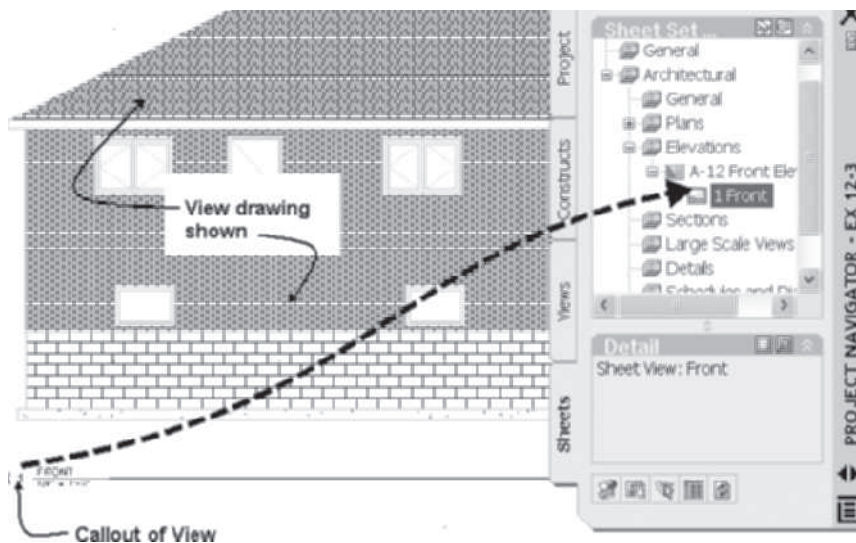

FIGURE 12.12 Callout data extracted from the sheet field
1. The callout number and view name can be edited in the Sheets tab of the Project Navigator. The callout identification number and scale of the view were assigned when the view was placed on the sheet. You can select the name in the Sheets tab of the Project Navigator, right-click, and choose **Rename and Renumber** to edit the number and name. When the view and sheet are reopened, the number and name will be updated. You can click and drag the callout of the view drawing to the drawing name in the Sheets tab to update the data of the callout as shown in Figure 12.12.